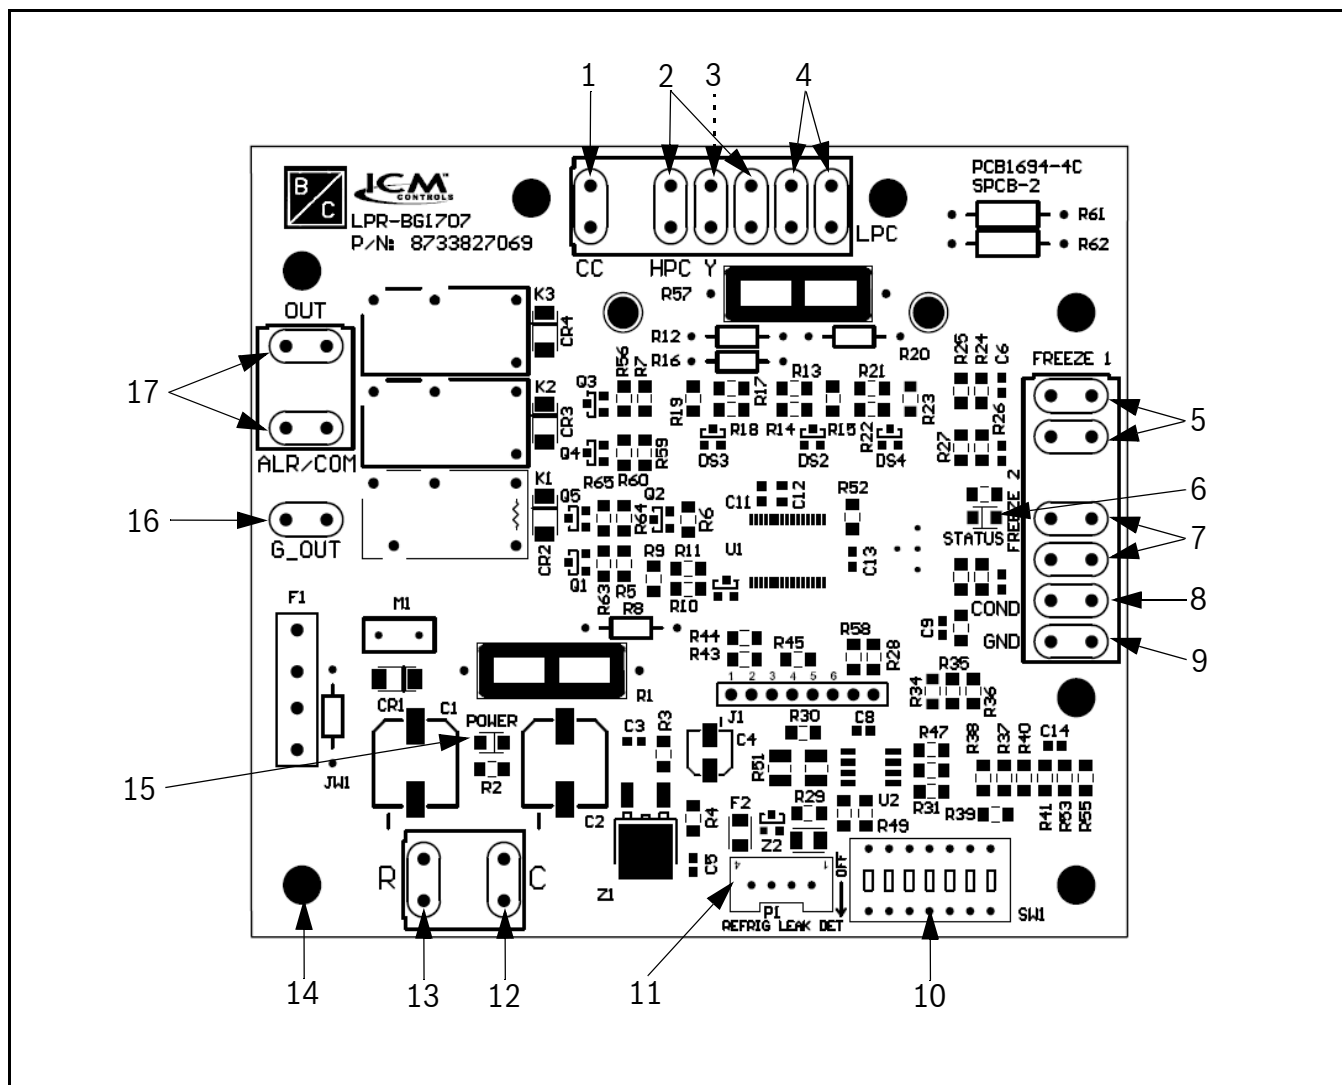
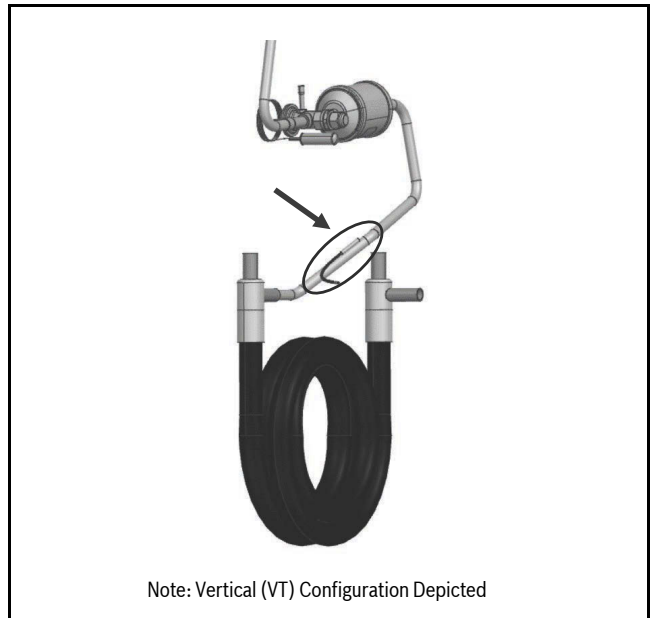
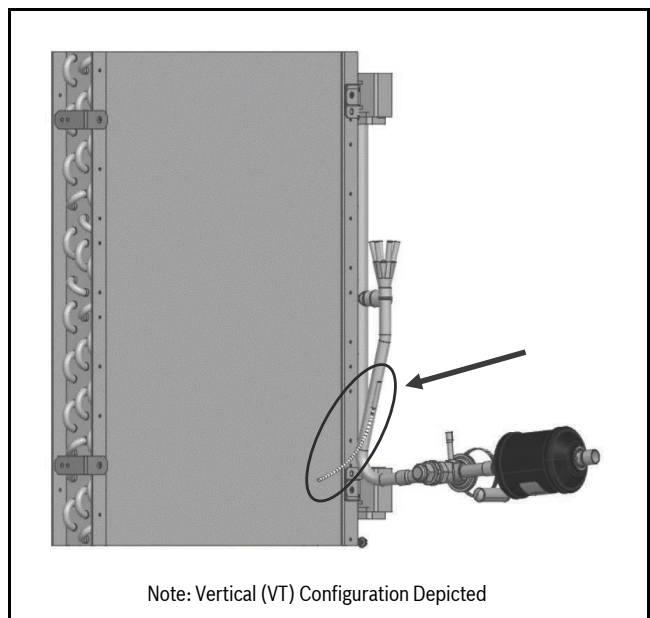
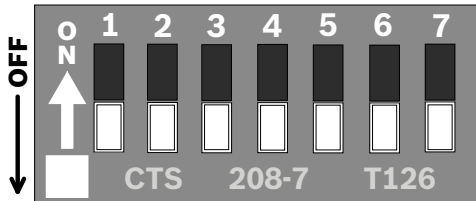

Fig. 18 UPM Controller Board
Fig. 19 Waterside Freeze Protection Sensor Location (FREEZE 1)
Fig. 20 Air Coil Freeze Protection Sensor Location (FREEZE 2)
Fig. 21 UPM Settings DIP Switch (SW1)
- Waterside freeze protection sensor (FREEZE 1), mounted close to condensing water coil (→Refer to Fig. 19), monitors refrigerant temperature between condensing water coil and thermal expansion valve. If temperature drops below or remains at freeze limit trip for 120 seconds, the controller will shut down the compressor and enter into a soft-lockout condition. The default freeze limit trip is 25°F; however, this can be changed by flipping DIP switch SW1. (→Refer to Fig. 18, item [10].)(→Refer to Fig. 21.)
- Air coil freeze protection sensor (FREEZE 2), mounted between the thermal expansion device and the air coil (→Refer to Fig. 20), monitors refrigerant temperature between the air coil and thermal expansion valve. If temperature drops below or remains at the freeze limit trip for 120 seconds, the controller will shut down the compressor and enter into a soft-lockout condition. The default freeze limit trip is 25°F.
- The condensate overflow protection sensor is located in the drain pan of the unit and connected to the “COND” terminal on the UPM board. (→Refer to Fig. 18, item [8].)
- **TEST DIP SWITCH:** The DIP switch position “4” controls the Test function. When it is set to “ON,” it will reduce all time delays settings to 10 seconds during troubleshooting or verification of unit operation. (→ Refer to Fig. 18, item [10].) (→ Refer to Fig. 21.) (→ See Table 10.)
- **LOW-PRESSURE BYPASS TIMER:** If the compressor is running and the low-pressure switch opens, the controller will keep the compressor ON for 120 seconds. After two minutes if the low-pressure switch remains open, the controllers will shut down the compressor and enter a soft lockout. The compressor will not be energized until the low-pressure switch closes and the anti-short cycle time delay expires. If the low-pressure switch opens two or four times in one hour, the unit will enter a hard lockout. In order to exit a hard lockout, power to the unit would need to be reset. The reset signal is either a Y or R signal depending on if DIP switch position “2” is set to ON or OFF. (→ Refer to Fig. 21.) (→ See Table 10.) If it set to ON, the board must be manually powered OFF and powered back ON to exit the hard lock out.
- **MALFUNCTION OUTPUT:** Alarm output is Normally Open (NO) dry contact. If pulse is selected the alarm output will be pulsed. The fault output will depend on the DIP switch setting for "ALARM." (→ Refer to Fig. 21.) (→ See Table 10.) If DIP switch position “3” is set to “ON,” a constant signal will be produced to indicate a fault has occurred and the unit requires inspection to determine the type of fault. If it is set to “OFF,” a pulse signal is produced and a fault code is detected by a remote device indicating the fault. (→ For blink code explanation, see Table 11.) The remote device must have a malfunction detection capability when the UPM board is set to "PULSE."
- FREEZE SENSOR:** The default setting for the freeze limit trip is 25°F (FREEZE 1); however, this can be changed to 15°F by flipping the DIP switch position “5” (→Refer to Fig. 18, item [10]) (→Refer to Fig. 21), freeze limit trip should only be changed to 15°F when a closed loop system with appropriate antifreeze mixture is used. **Since Freeze Sensor 2 is dedicated to monitoring the load side coil, it is recommended to leave the factory default setting on the board.** The UPM controller will constantly monitor the refrigerant temperature with the sensor (FREEZE 1) mounted close to the condensing water coil between the thermal expansion valve and the water coil. If the temperature drops below or remains at the freeze-limit trip for 120 seconds, the controller will shut the compressor down and enter into a soft-lockout condition. Both the status LED and the alarm contact will be active. The status LED will be active, blinking the fault code. The LED will flash (three times) the code associated with this alarm condition. If this alarm occurs two times (or four if DIP switch position “1” is set to “ON”) within an hour, the UPM controller will enter into a hard-lockout condition. It will constantly monitor the refrigerant temperature with the sensor (FREEZE 2) mounted close to the air coil between the thermal expansion valve and air coil, as shown in Fig. 20. If the temperature drops below or remains at the freeze limit trip for 120 seconds, the controller will shut the compressor down and enter into a soft-lockout condition. Both the status LED and the alarm contact will be active. The status LED will be active,
blinking the fault code. The LED will flash six times the code associated with this alarm condition. If this alarm occurs two times (or four times if DIP switch position “1” is set to “ON”) (→Refer to Fig. 21) (→See Table 10) within an hour, the controller will enter into a hard-lockout condition.
- INTELLIGENT RESET:** If a fault condition is initiated, the five-minute delay on break time period is initiated and the unit will restart after these delays expire. During this period the fault LED will indicate the cause of the fault. If the fault condition still exists or occurs two or four times (depending if the Lockout DIP switch position “1” is set to “OFF” or “ON”) (→Refer to Fig. 21) (→See Table 10) before 60 minutes, the unit will go into a hard lockout and requires a manual lockout reset.
- To clear a hard lockout when the DIP switch position “2” is set to “OFF” (Y), power can be cycled OFF then back ON either at the unit’s thermostat or at the circuit breaker.
- To clear a hard lockout when the DIP switch position “2” is set to “ON” (R), power must be cycled OFF then back ON at the circuit breaker (not at the thermostat).
(→Refer to Fig. 21.) (→See Table 10.)
- PUMP DIP SWITCH:** When DIP switch position “7” is set to “ON” and no Y call has been received in the past 8 hours, the compressor will have a delay of 30 seconds to allow a loop pump to circulate water before compressor starts. (→Refer to Fig. 21.) (→See Table 10.)